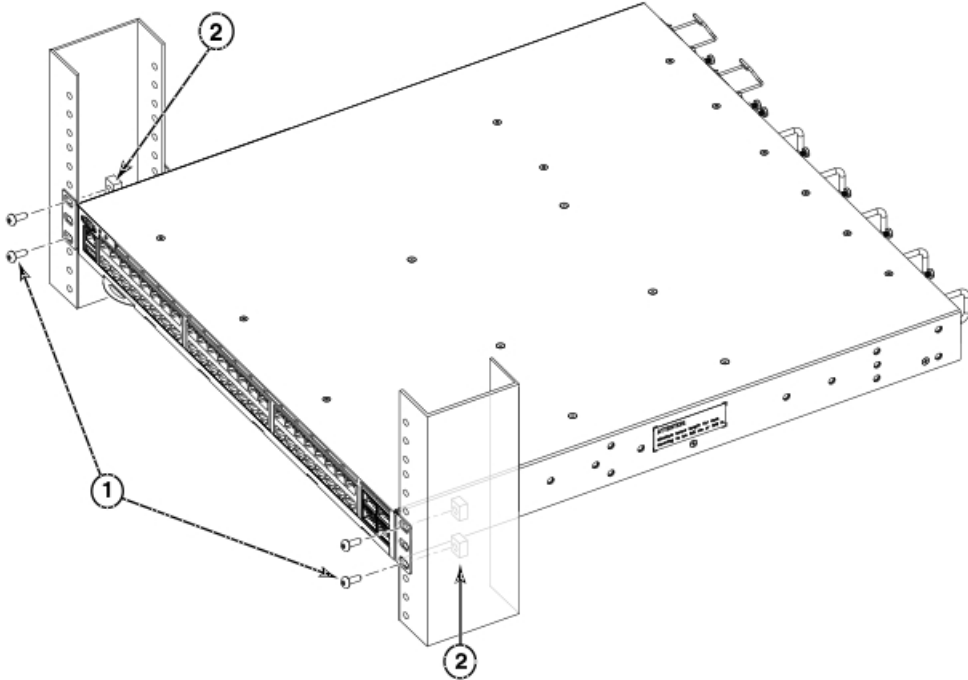

Figure 16. Attaching front brackets to a rack
1. Position the device in the rack, as shown in (Figure 16 on page 30), providing temporary support under the device until the rack kit is fully secured to the rack.